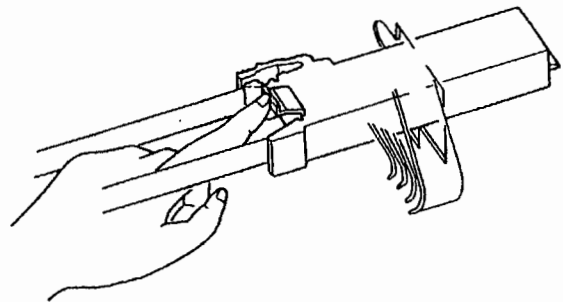

Figure 6.6
- (7) Bring the ribbon cassette to the middle of the recorder, then change it from the right hand to the left hand to prevent the right hand from coming into contact with the pen carriage. Insert half of the cassette into the square hole on the right side plate and push the angled section at the end of the cassette. (Figure. 6.6)